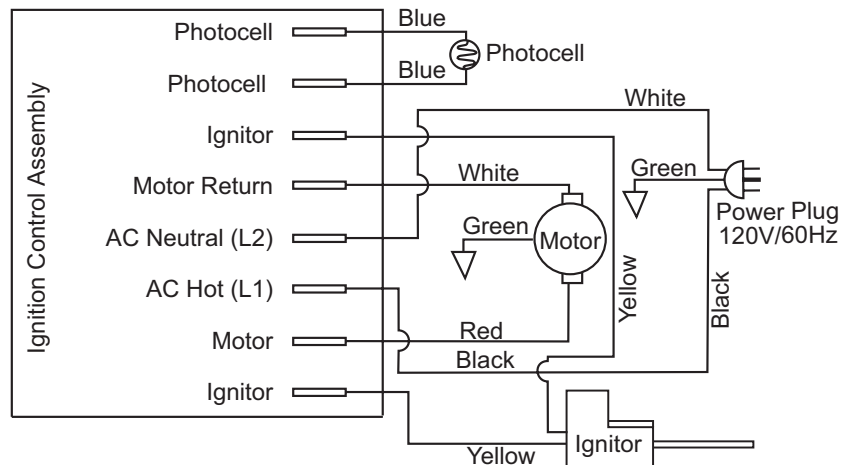

Figure 4 - Connection Diagram
3. Connect the eight wire leads to the ignition control assembly as shown in the connection diagram (see Figure 4).